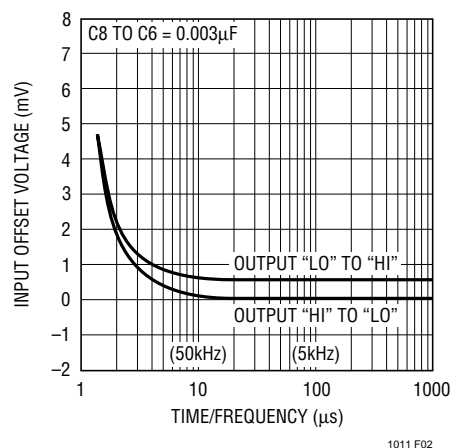

Figure 2. Input Offset Voltage vs Time to Last Transition
This circuit is especially useful for general purpose comparator applications because it does not force any signals directly back onto the input signal source. Instead, it takes advantage of the unique properties of the BALANCE pins to provide extremely fast, clean output switching even with low frequency input signals in the millivolt range. The 0.003μF capacitor from Pin 6 to Pin 8 generates AC hysteresis because the voltage on the BALANCE pins shifts slightly, depending on the state of the output. Both pins move about 4mV. If one pin (6) is bypassed, AC hysteresis is created. It is only a few millivolts referred to the inputs, but is sufficient to switch the output at nearly the maximum speed of which the comparator is capable. To prevent problems from low values of input slew rate, a slight amount of DC hysteresis is also used. The sensitivity of the BALANCE pins to current is about 0.5mV input referred offset for each microampere of BALANCE pin current. The 15M resistor tied from OUTPUT to Pin 5 generates 0.5mV DC hysteresis. The combination of AC and DC hysteresis creates clean oscillation-free switching with very small input errors. Figure 2 plots input referred error versus switching frequency for the circuit as shown.